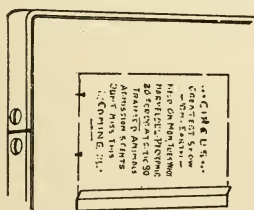
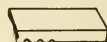

FIG. 160.
FIG. 161.
**The Tympan**, or metal bed upon which the paper to be printed is placed, should be padded well with paper to make a firm impression, the number of sheets required depending upon the character of the form. These sheets are held in place by means of the iron clamps which slip over the ends of the tympan (see Fig. 160).
**Overlaying** the form. Make several impressions, including one on the top tympan-sheet. Then cut out the light portions of a print and paste them directly over the corresponding printing on the tympan-sheet (see Fig. 160). Thin tissue-paper will be found good for building up portions requiring but little increase in pressure.
When the form prints satisfactorily, you must prepare the marginal lines before running off the job. The margins can easily be marked off upon the tympan-sheet, as you have the impression upon it for a guide (see Fig. 160). When this has been done,
in the drawing. It must be pasted in place and held in position until dry, to prevent it from slipping (see Fig. 160). The third form of home-made gauge-pin consists of a quad (Fig. 161), or thin piece of furniture, pasted to the tympan-sheet.